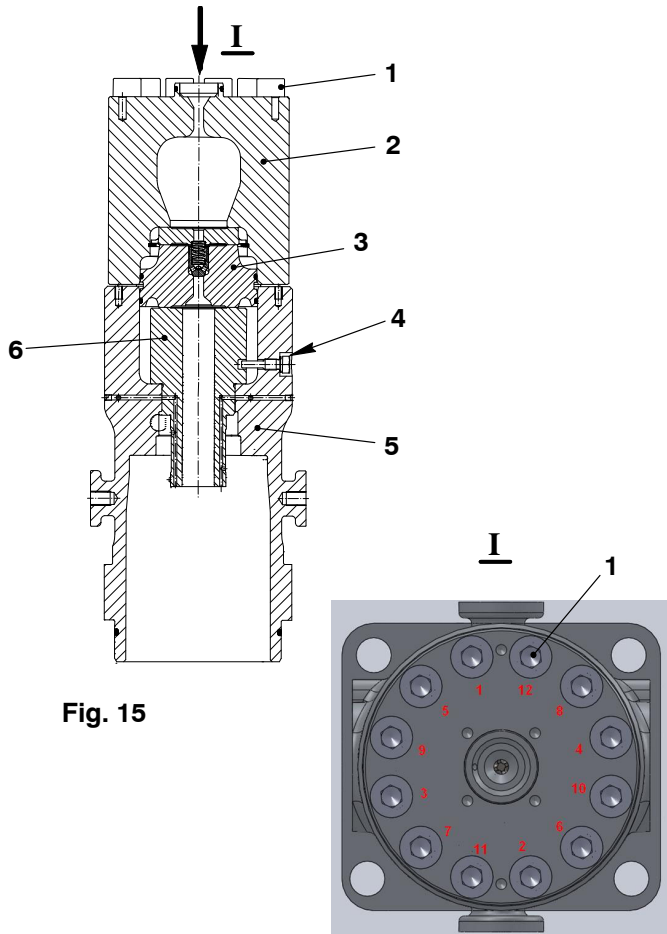

Fig. 15
- 1) Put oil on the bottom part of the non-return valve (3, Fig. 15).
- 2) Carefully put the assembled non-return valve (3) into the top housing (5).
- 3) Put the pump cover (2) in position on the top housing (5). Make sure you do not damage the compression spring.
- 4) Apply NeverSeez NSBT to the threads and the bottom faces of the 12 bolts (1).
- 5) Put the 12 bolts (1) in position in the pump cover (2).
- 6) Torque the 12 bolts (1) as follows: